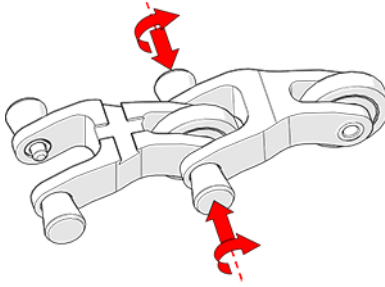

Figure 3-44 Release pins
3. Twist the pins until they unlatch and extend into the hole of the connected component (see Figure 3-44 on page 70).